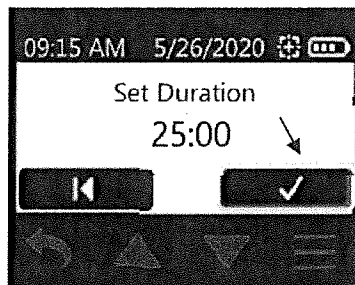

Figure 35. Accept Button
- Touch check mark to accept new time and return to Main Display. New duration setting will display (Figure 35).